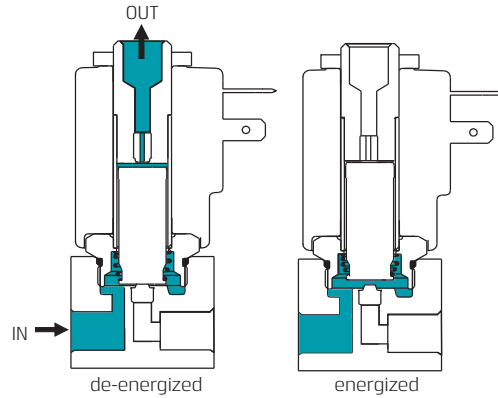

Fig. 2
- Normally Open (NO) Fig. 2 - valve is open for flow through the valve when the coil is de-energized.